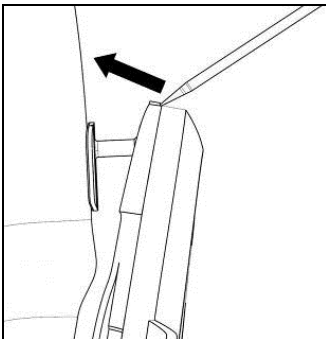

Fig. 22
- Lift the safety block of upper foot using a flat head screwdriver (or a similar tool), as indicated in Fig. 22.